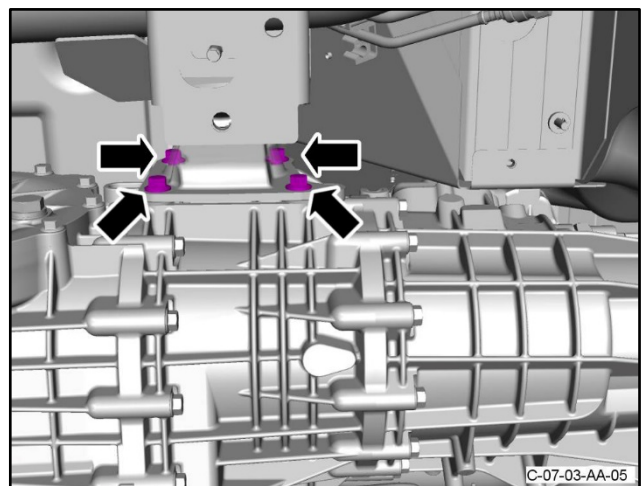

Figure 55
- 109. Put the right mount bracket with the hydramount attached into position (refer to Figure 55).